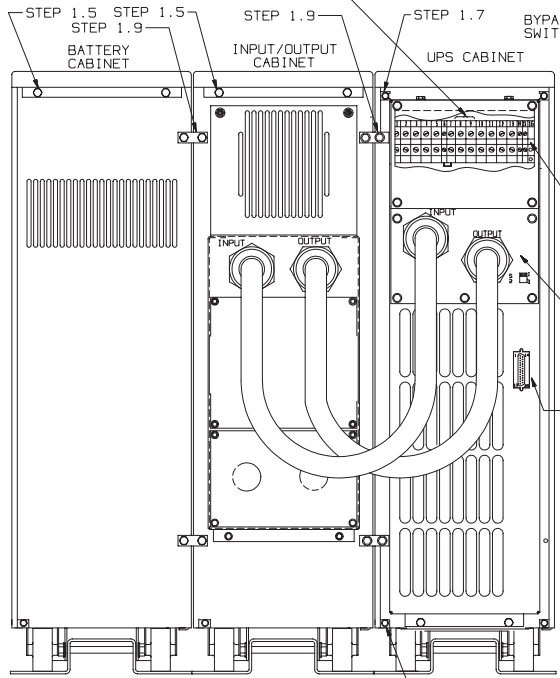

FIGURE 1
- 1.5 REMOVE THE TOP COVERS FROM THE BATTERY AND INPUT/OUTPUT CABINETS BY REMOVING THE (2) SCREWS LOCATED AT THE TOP REAR OF EACH CABINET SHOWN IN FIGURE 1 AND RETAIN THE SCREWS. PULL THE TOP COVER TOWARD THE REAR OF THE UNIT TO RELEASE COVER LATCH AND LIFT THE COVER OFF OF THE CABINET.
- 1.7 REMOVE THE RIGHT SIDE COVER OF THE UPS CABINET BY REMOVING THE (4) EACH MOUNTING SCREWS AS SHOWN ABOVE. IN FIGURES 1B4, PULL THE SIDE COVER OUT FROM THE TOP AND THEN DOWN TO DETACH IT FROM THE SYSTEM. RETAIN THE SIDE COVER AND MOUNTING HARDWARE.
- 1.9 JOIN THE CABINETS TOGETHER IN 4 PLACES AS SHOWN IN FIGURES 1, 3 AND 5 USING THE HARDWARE PROVIDED IN THE JOINING KIT. REPEAT FOR EACH CABINET.